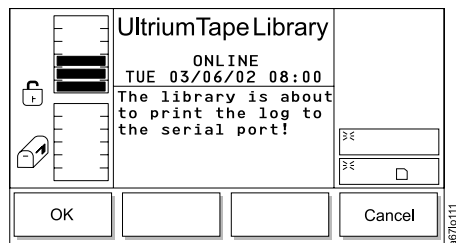

Figure 119. Print Dialog
- To print the error log, press the button below the **Print** softkey. The Print Dialog displays (see Figure 119). Press the button below the **OK** softkey to send the log to your printer. After the operation is complete, the screen refreshes. To return to the Logs Submenu, press the button below the **Cancel** softkey.